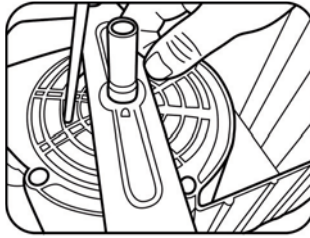

Fig. 8.2
- ✿ Loosen the blade bolt and remove the blade. Then retighten firmly. Figure 8.2